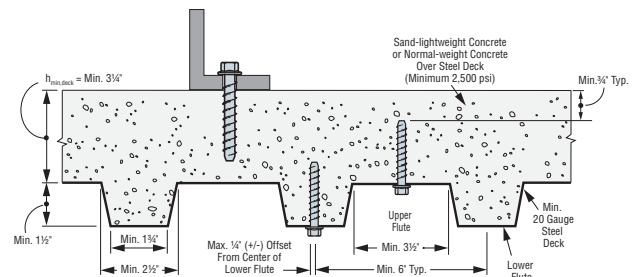

Figure 2. Installation of 3/8" Diameter Anchors in the Topside and 1/4" Diameter Anchors in the Soffit of Concrete over Metal Deck
- For anchors installed in the topside of concrete-filled deck assemblies, as shown in Figures 2 and 3, the nominal concrete breakout strength of a single anchor or group of anchors in shear, V_{cb} or V_{cbg} , respectively, must be calculated in accordance with ACI 318 D.6.2, using the actual member thickness, $h_{min,deck}$, in the determination of A_{vc} .
- Minimum flute depth (distance from top of flute to bottom of flute) is 1 1/2 inch (see Figures 2 and 3).
- Minimum concrete thickness ($h_{min,deck}$) refers to concrete thickness above upper flute (see Figures 2 and 3).